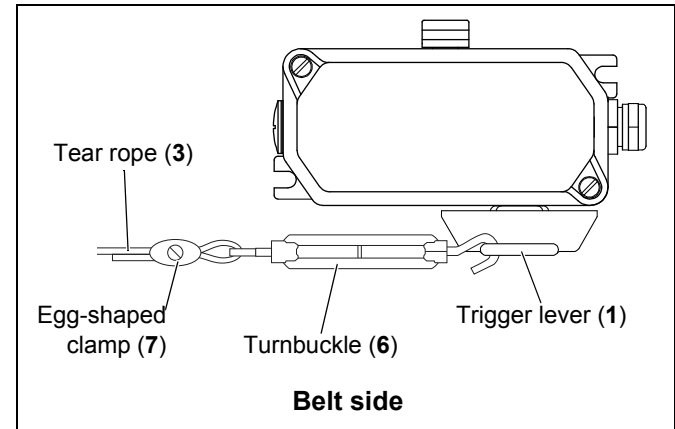

Fig. 5-6: Attaching the turnbuckle
- Use an egg-shaped clamp (7) to attach the tear rope (3) to the tension spring (4) (see fig. 5-6).
- Fix the eyebolts (8) to the conveyor structure to guide the pull wire (3).